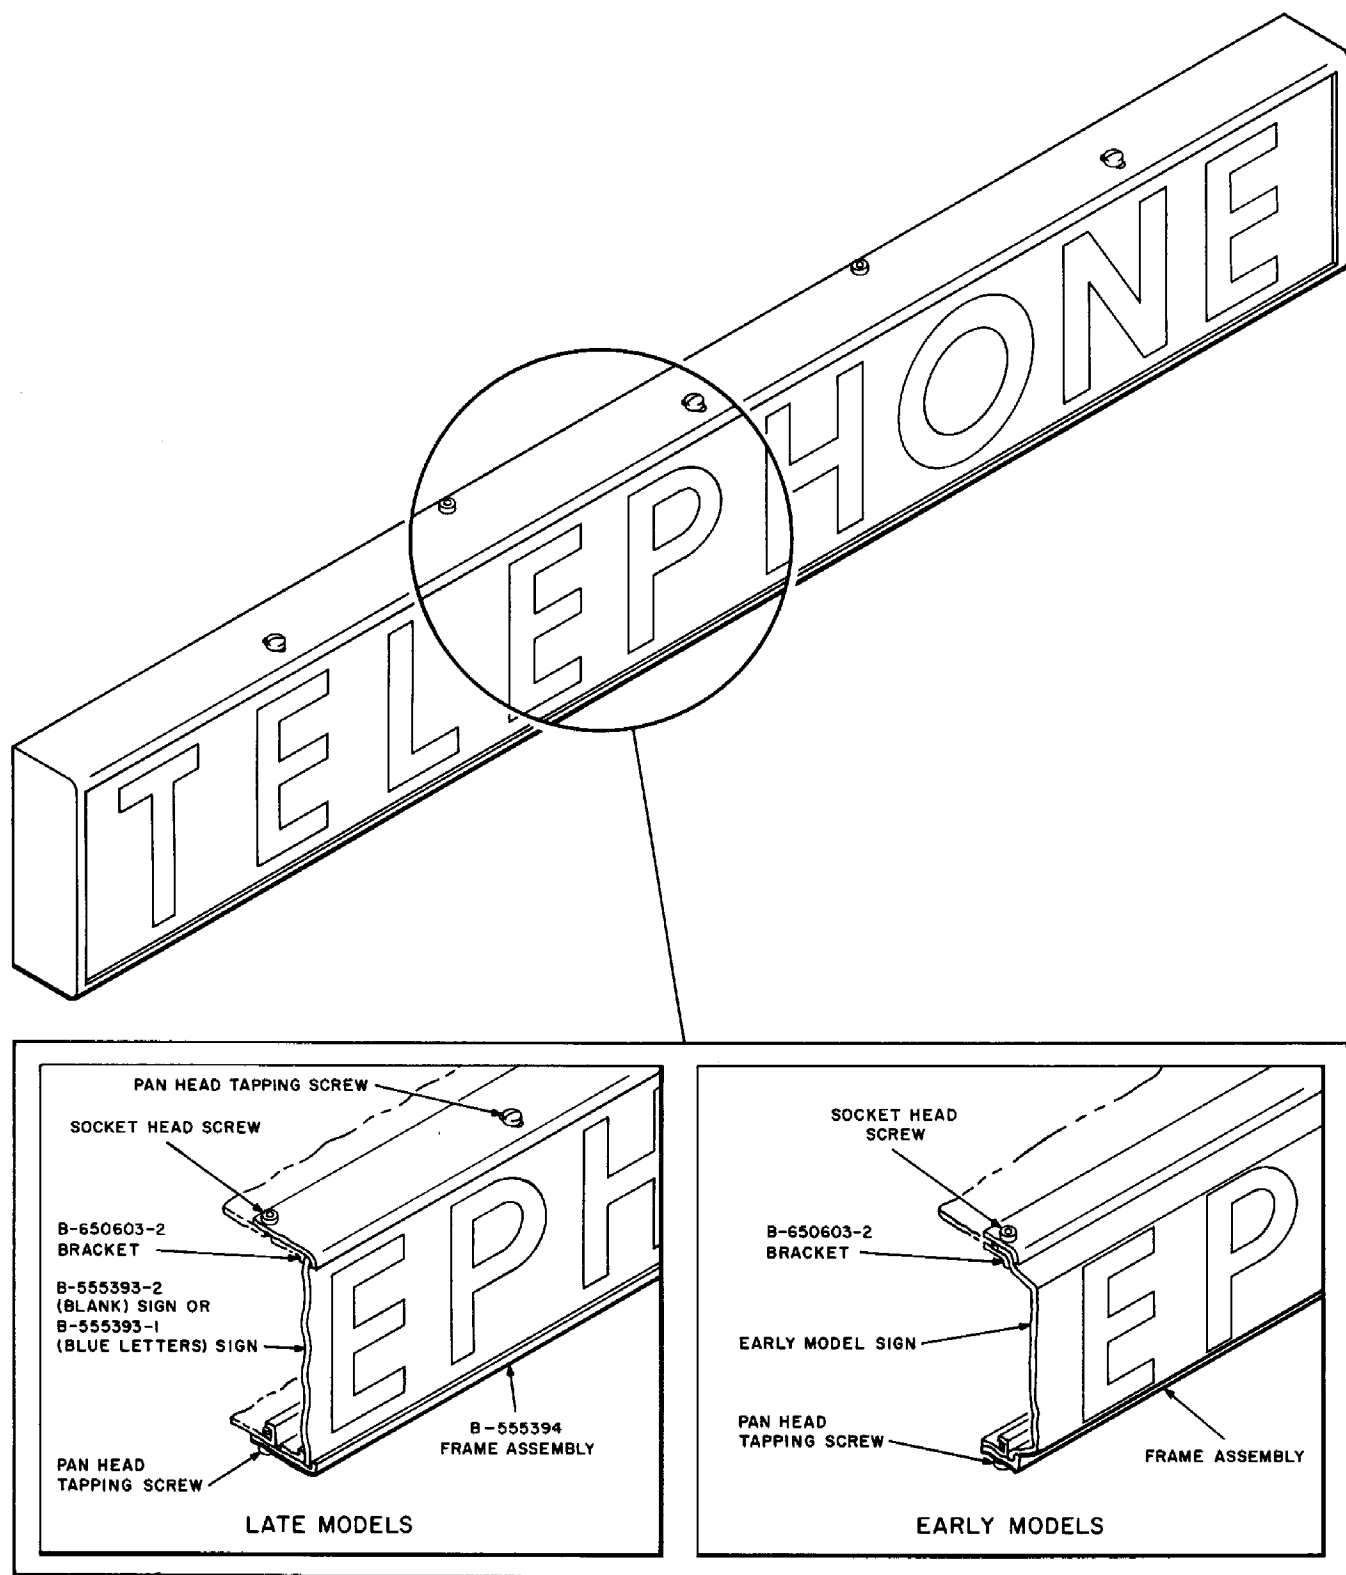

Fig. 3 — KS-19206, List 8 or List 9 Sign Assembly
- 6.01 Remove the telephone sign assembly or sign blank (Fig. 3) as follows: